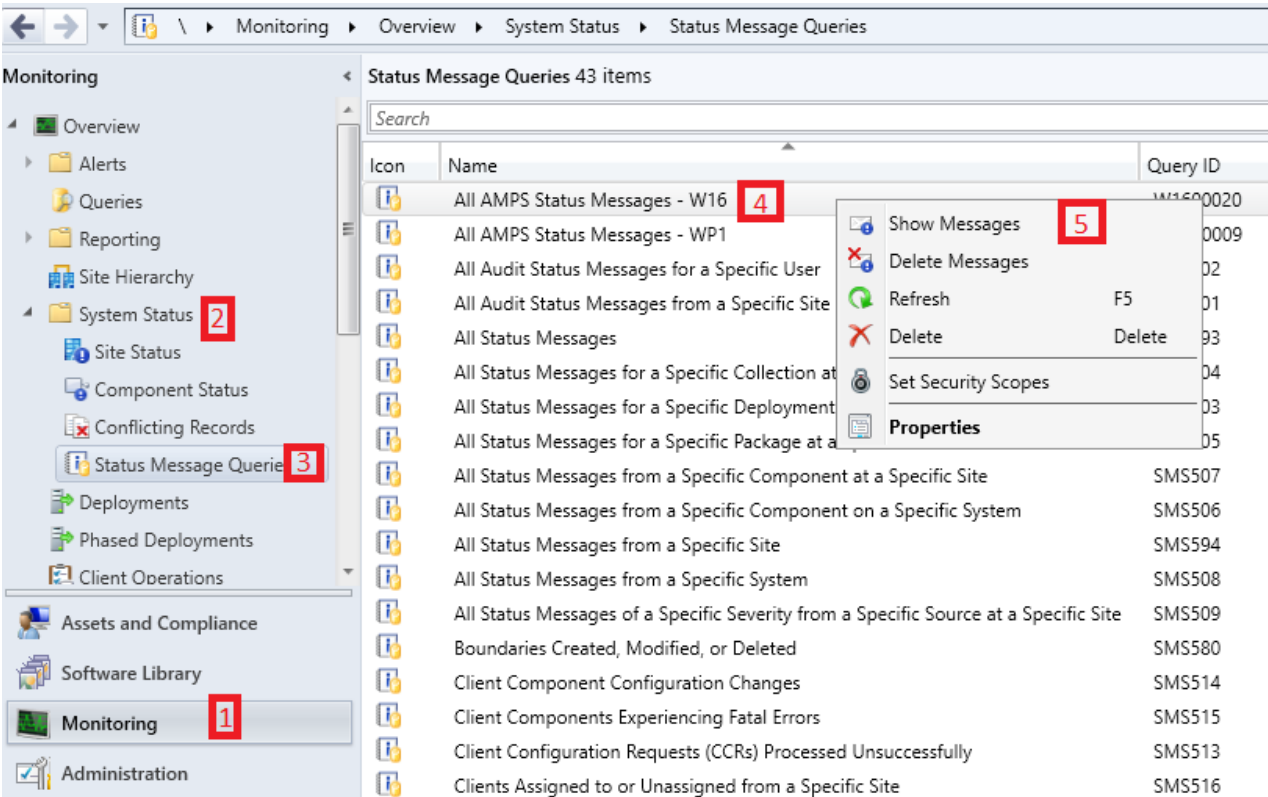

Figure 175: All AMPS Status Messages Queries
- 4. Click the **Show Message of All AMPS Status Message** ribbon icon as shown in Figure 175.